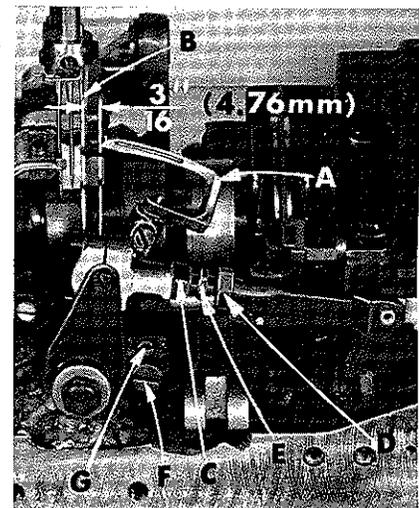

Fig. 8
Insert a new needle in the right needle seat, type and size as specified. If the looper gauge is 3/16 inch (4.76 mm), for example, set the looper (A, Fig. 8) so the distance from the center of the right needle (B) to the point of the looper is 3/16 inch (4.76 mm) when the looper is at its farthest position to the right. Looper gauge No. 21225-3/16 can be used advantageously in making this adjustment. Refer to chart for looper gauge setting and looper gauge number applicable to machine Style. If adjustment is required, loosen nut (C) (it has a left hand thread) and nut (D) on connecting rod (E), turn the connecting rod forward or backward to obtain specified dimension. Retighten both nuts, first nut (D) and then nut (C). Make sure the left ball joint is in vertical position and does not bind after adjustment.
The looper is set correctly in line-of-feed, if, as it moves to the left, behind the needle, its point brushes, but does not pick at the rear of the needle. If adjustment is necessary, loosen lock screw (F, Fig. 8) and turn stop screw (G) as required. Turning stop screw clockwise sets the looper to the rear and turning it counterclockwise acts the reverse. Holding looper to the front while making this adjustment may prove helpful. Tighten lock screw when setting is obtained and recheck the adjustment.